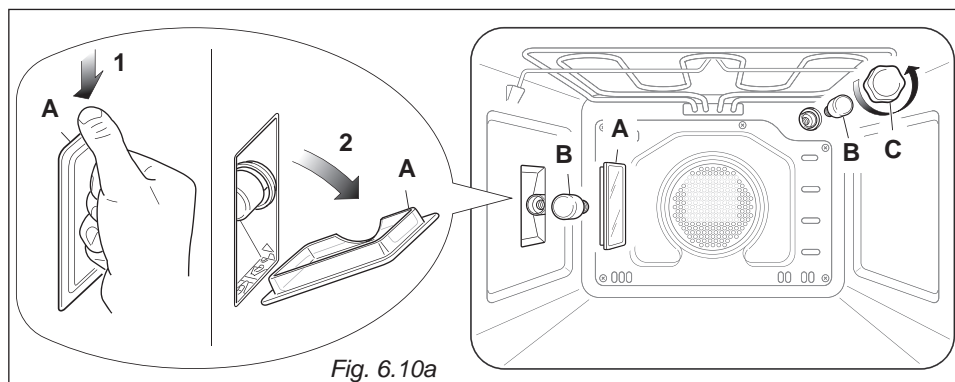

Fig. 6.10a
- Remove the protective cover “C” (fig. 6.10a).
- Press down from the top the protective cover “A” (fig. 6.10a) and remove it by rotating on the lower side.